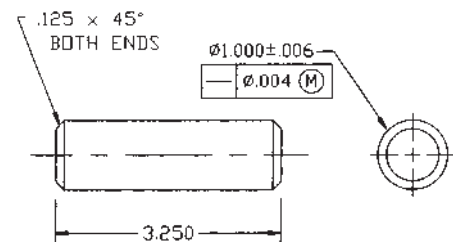

Figure P8-33
- Given the shaft shown in Figure P8-33, what is the minimum hole diameter that will always accept the shaft?